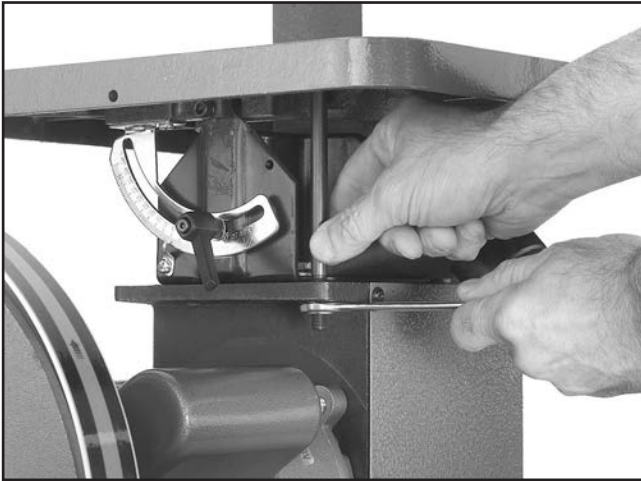

Figure 11. Squaring the sanding table.
5. If the table is not 90° from the spindle, adjust the table stop bolt to allow more table travel, as shown in **Figure 11**.